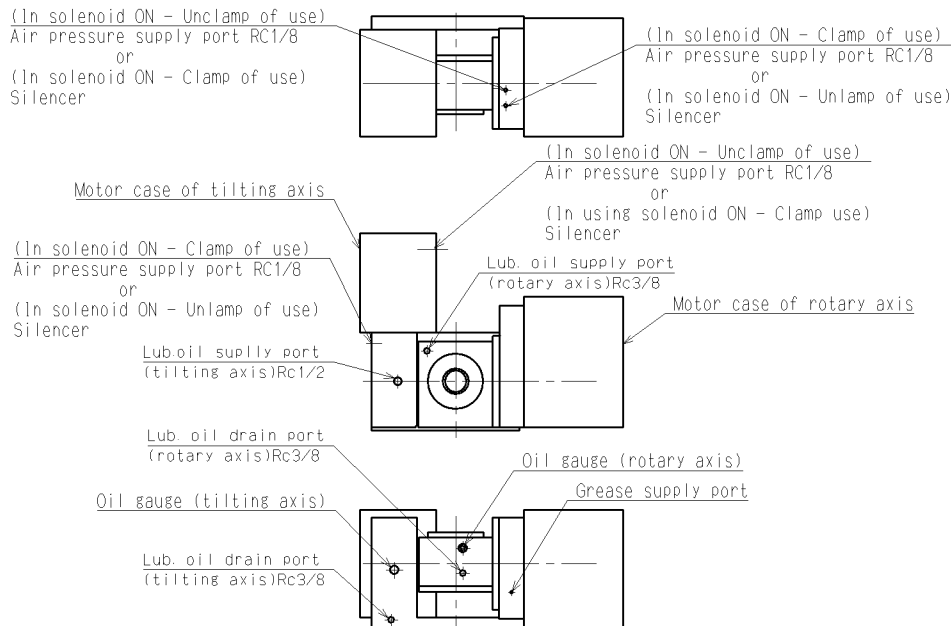

Fig 1
Lubricant has been already filled in the NC rotary table body before shipping. Check the lubricant is filled to the center line of the gauge before operating the machine. (See Fig.1.)
- 2) Connect the air pressure hose to the connection(Rc 1/8)shown in Fig.1.